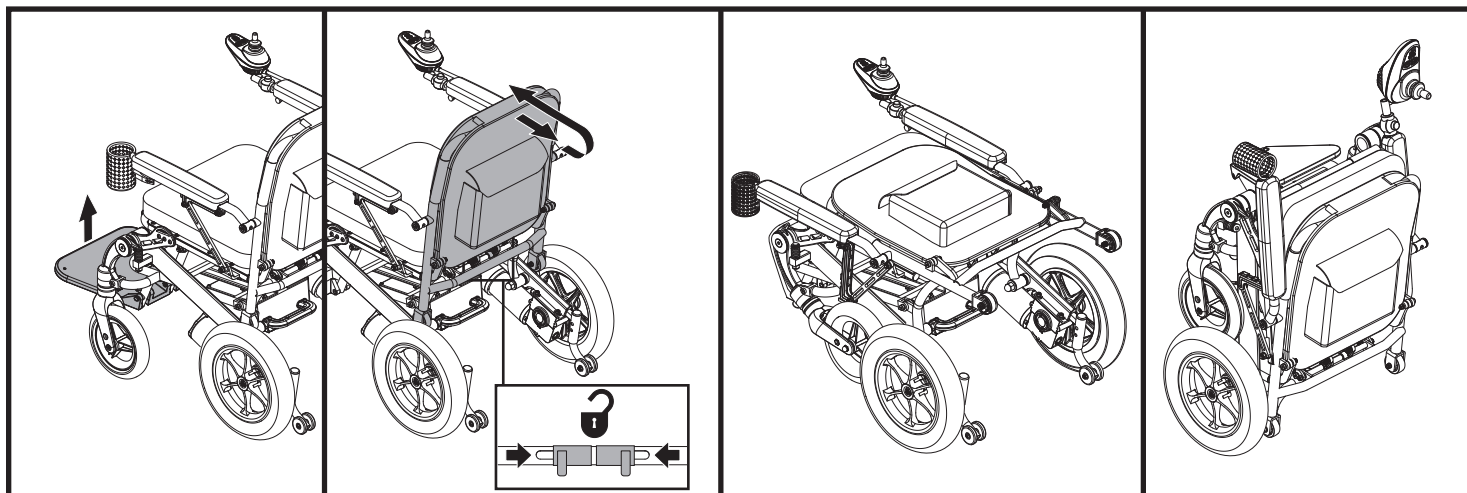

Figure 7. Folding the iGo+®
3. Place one hand on top of the seatback and pull it toward you while squeezing the pins of the locking mechanism together. **See figure 7.**